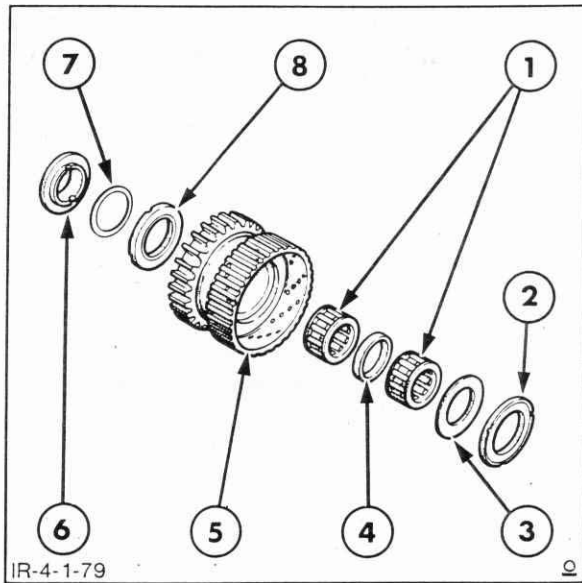

Figure 4-181
4. Place the thrust washer, Figure 4-181, on the flat hub of the clutch housing (the hub in the front of the housing is recessed), then install the rear clutch hub (reverse idler input), bearings, and spacer. Install the clutch plates, one by one, starting with a steel plate then a bronze plate.